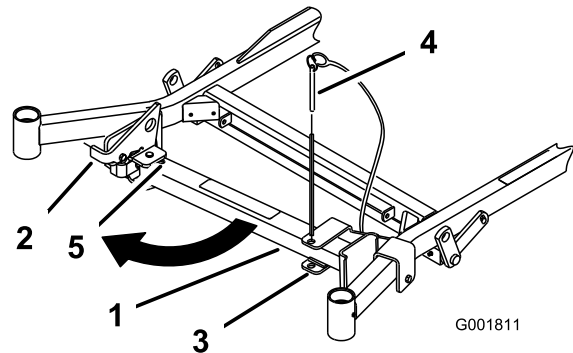
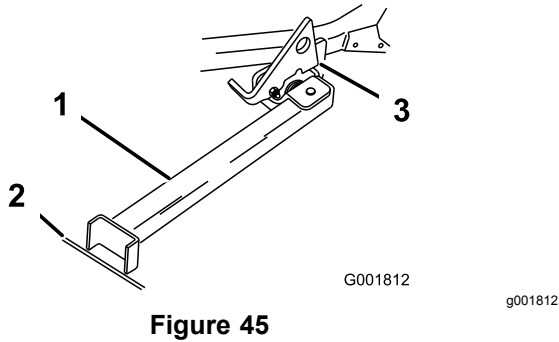

Figure 44
Figure 45
2. Remove the bracket pin (Figure 44).
- Swing the stand foot out front and slide it toward machine, into the bottom of slot (Figure 44 and Figure 45).
- Set the foot of the stand on the ground and rest the latch on the pivot tab (Figure 45).
Note: For best results, place the foot of the stand into the seams in sidewalks or into the turf (Figure 45).
- Drive the machine onto the stand. Stop when the latch drops over the tab into the locked position (Figure 45).
- Return the stand to its rest position (Figure 44).